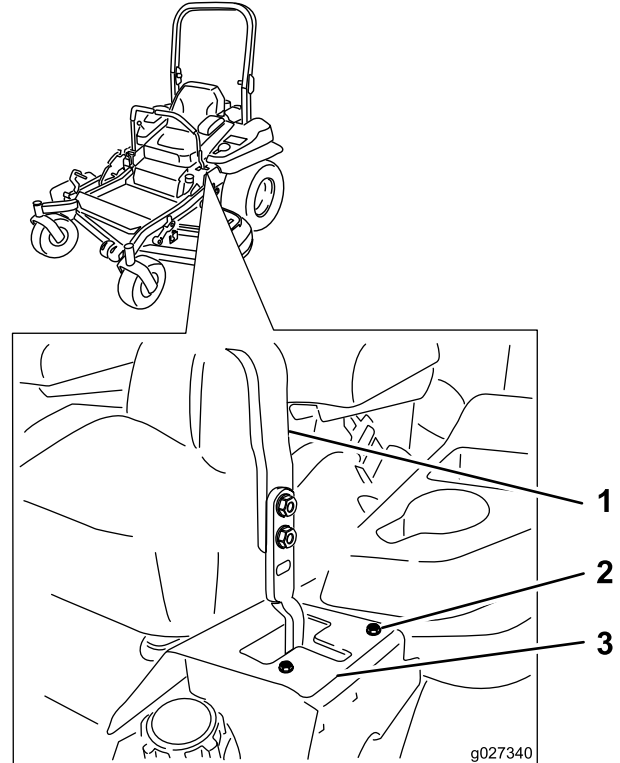

Figure 67
7. If the machine tracks to the left, loosen the bolts and adjust the right stop plate rearward on the right T-slot until the machine tracks straight (Figure 67).
8. Tighten the stop plate (Figure 67).
6. If the machine tracks to the right, loosen the bolts and adjust the left stop plate rearward on the left T-slot until the machine tracks straight (Figure 67).